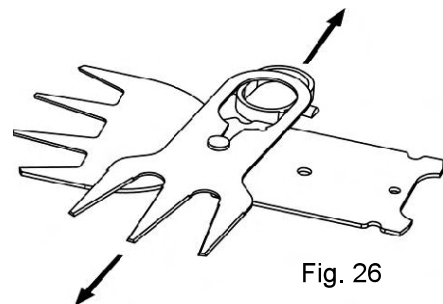

Fig. 26
Re-sharpening the grass shear blade (Fig.26):
- Separate the upper blade (24) and lower blade (25) (Fig.26).